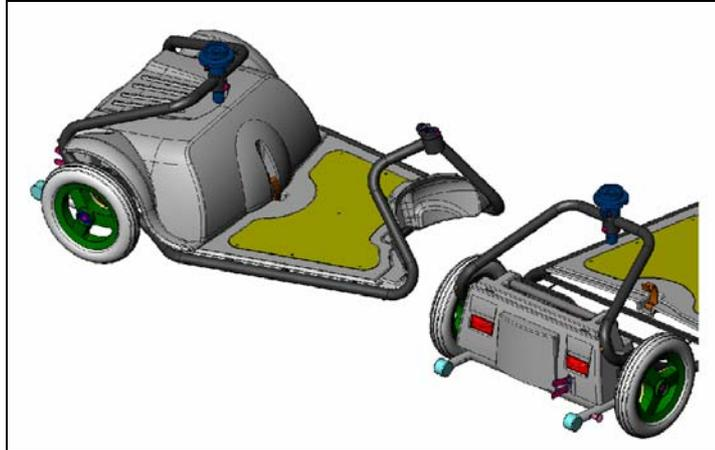

Figure 9
2.4 Installation of Batteries Cover (See Fig. 9)
(See **Figure 9**)